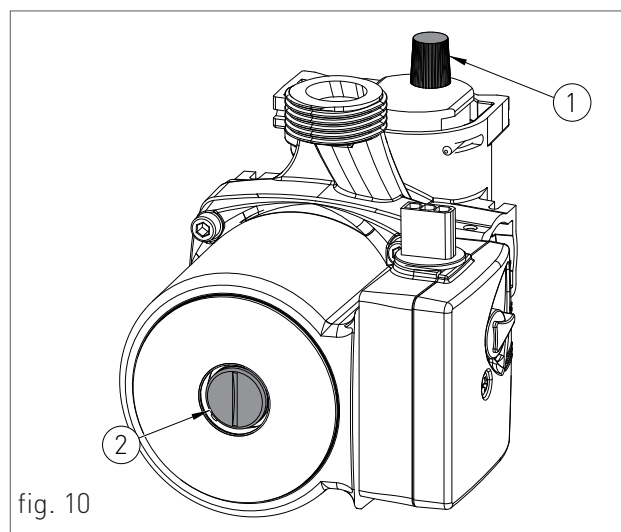

fig. 10
2. Slightly loosen the cap of the circulator air eliminator (1-fig. 10) to release the air from the system;
8. Unscrew the circulator cap (2-fig.10) to release any air bubbles and close it to prevent water leakage;